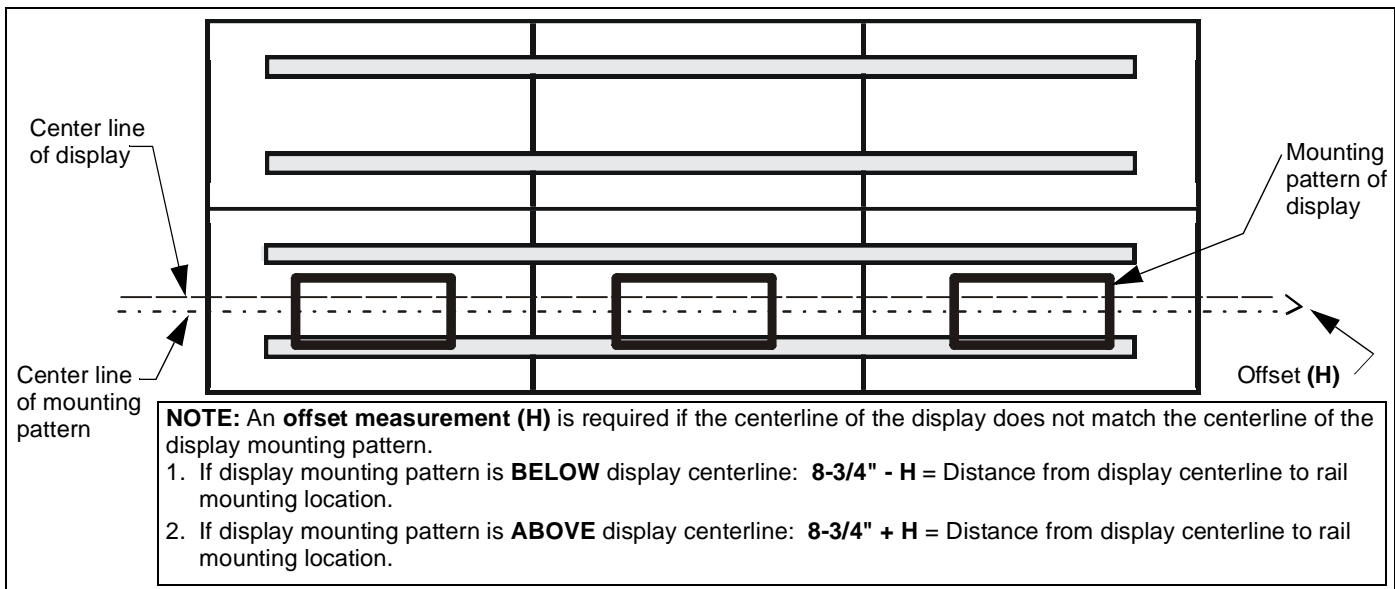

Figure 4
**NOTE:** If an offset measurement **(H)** is needed (See Figure 4):